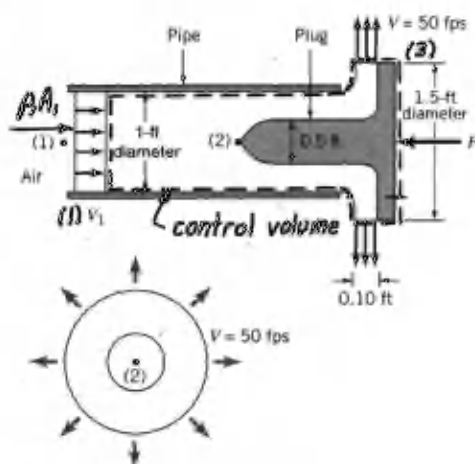

FIGURE P5.7R
5.7R (Linear momentum) An axisymmetric device is used to partially "plug" the end of the round pipe shown in Fig. P5.7R. The air leaves in a radial direction with a speed of 50 ft/s as indicated. Gravity and viscous forces are negligible. Determine the (a) flowrate through the pipe, (b) gage pressure at point (1), (c) gage pressure at the tip of the plug, point (2), (d) force,  $F$ , needed to hold the plug in place.